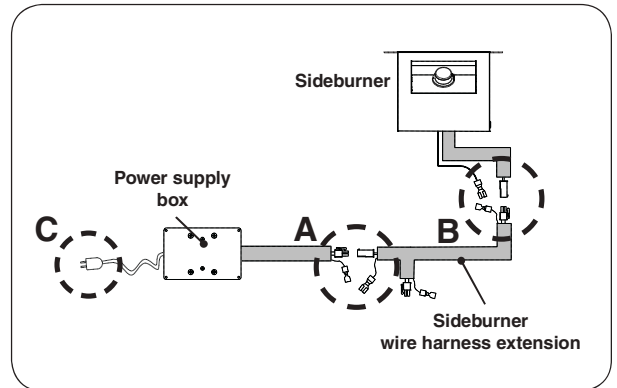

Fig. 17-1 Connect sideburner to power supply
3. Connect the power supply box connectors to the sideburner wire harness extension, as shown in Fig. 17-1, **A** (molex and ground wire connections).
4. Connect the sideburner wire harness extension to the sideburner, as shown in Fig. 17-1, **B** (molex and ground wire connections).
5. Connect the cord coming from the power supply box to a **120VAC (15 AMP minimum) GFCI GROUNDED 3-wire receptacle**. See Fig. 17-1, **C**, and 17-2.